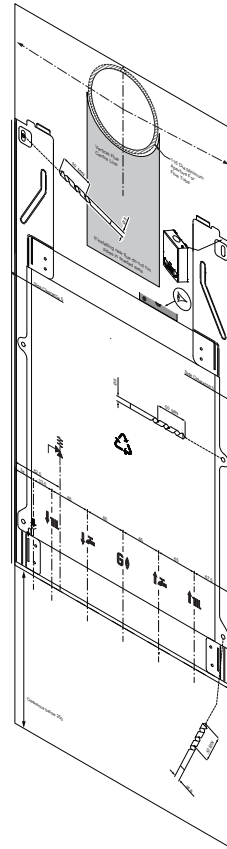

Fig. 1
- Using the template supplied (Fig. 1) mark the position of the fixing holes, flue centre and pipes. The upper fixing holes **MUST ALWAYS** be used - select two of the lower four positions.